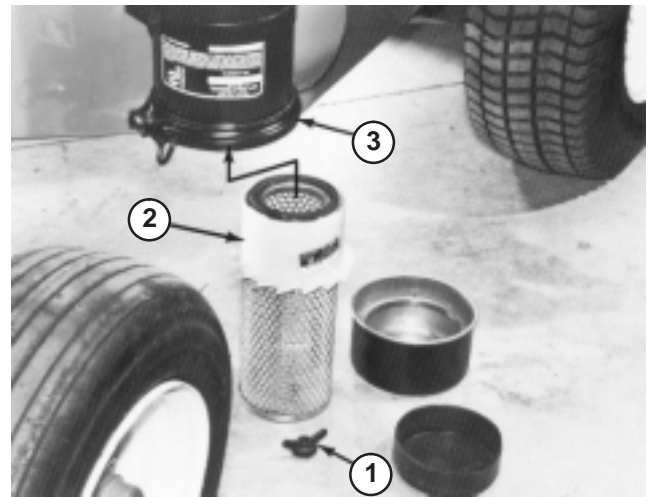

Figure 32
2. Remove wing nut w/gasket and slide filter element out of air cleaner body (Fig. 32).